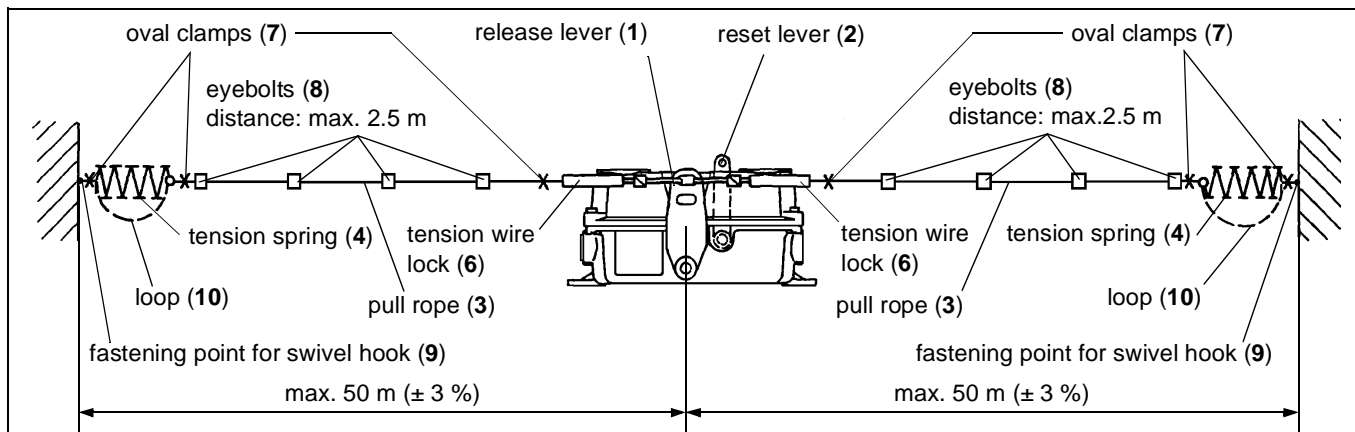

Fig. 5-1: Fastening on the conveyor belt structure
- The fastening points for the swing hooks (9) have to be mechanically stable structural parts.
- It is not allowed that the distance between the eyebolts (8) exceeds 2.5 m (s. fig. 5-1).
In order to mount the pull rope switches, the following accessories are required (s. fig. 5-1):